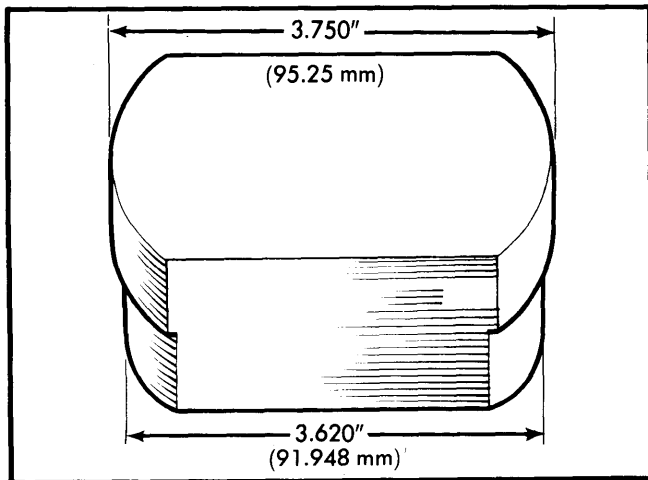

Fig. 7 Cylinder Liner Removing and Installing Block
3) Position camshafts accurately with valve timing gauge, and check that TDC marks are in exact alignment. See Fig. 7. Withdraw clips from camshaft sprockets and press adjusting plates forward until serrations disengage. See Fig. 4.